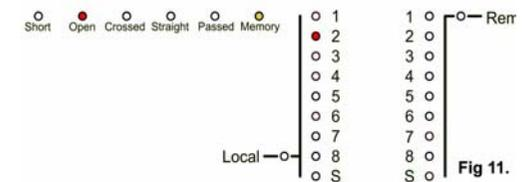

Fig 11.
- b) An open connection was found, usually indicated by a single LED (Fig11.).